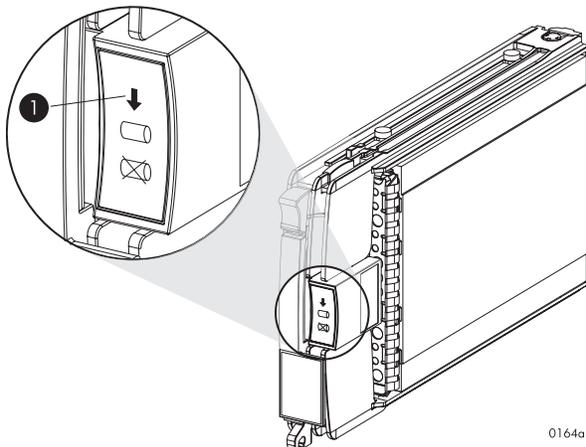

Figure 5 Disk drive activity indicator
When adding multiple disk drives, add a disk and wait for its activity indicator (1) to stop flashing (up to 90 seconds) before installing the next disk (see Figure 5). This procedure must be followed to avoid unexpected EVA system behavior.